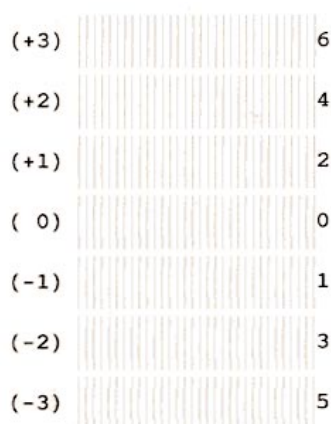

Figure 3-8 Head Position Adjustment Pattern (Sample)
- 2) The printer starts to print the head position adjustment pattern. (See Figure 3-8 Head Position Adjustment Pattern \(Sample\))